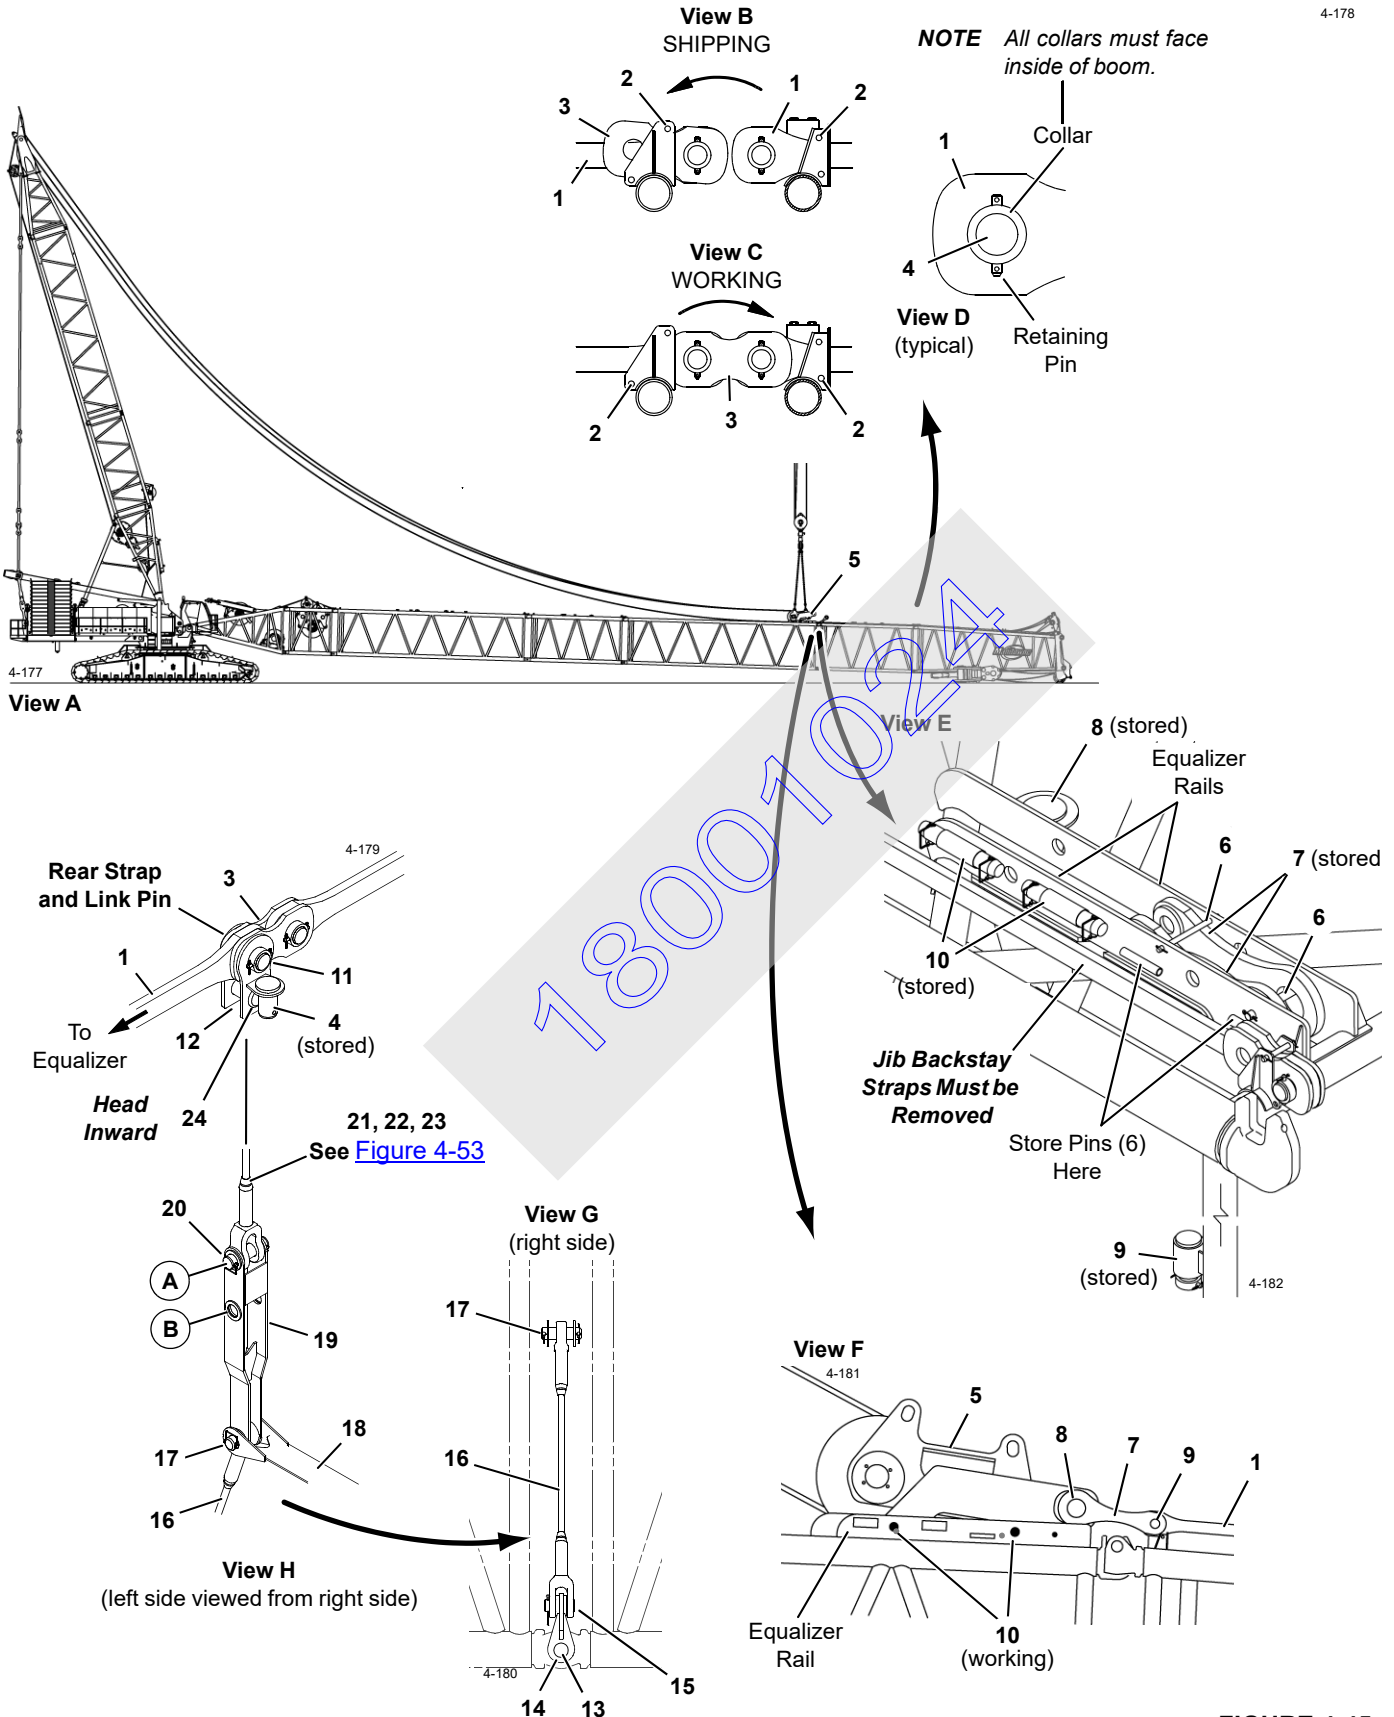

FIGURE 4-45
See Figure 4-45 for the following procedure.
See Figure 4-45 and Figure 4-53 for the following procedure.
**Legend for Figure 4-45**